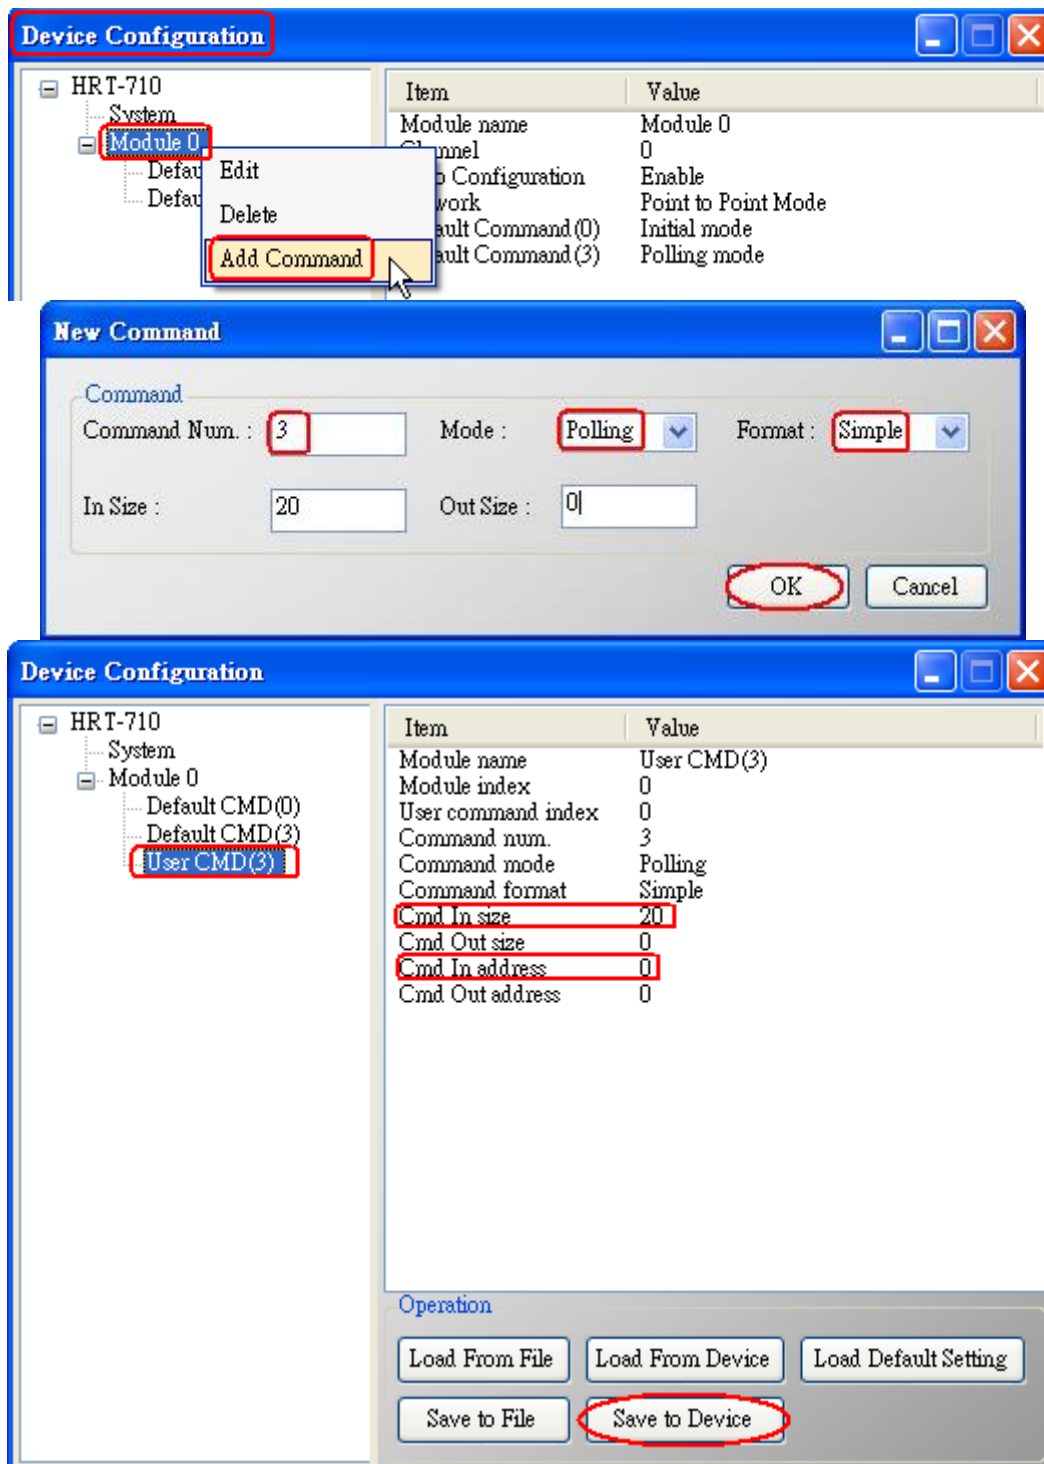

Figure 3-9 Add "User CMD(3)" to HRT-710
[1] Add “**User CMD(3)**” with “**Simple**” format and then click “Save to Device” to save the new HART device setting to HRT-710 like Figure 3-9. The mapped Modbus start address and length of User CMD(3) data can be found in “**Cmd In address**” and “**Cmd In size**” field. In the example, they are 0 and 20.